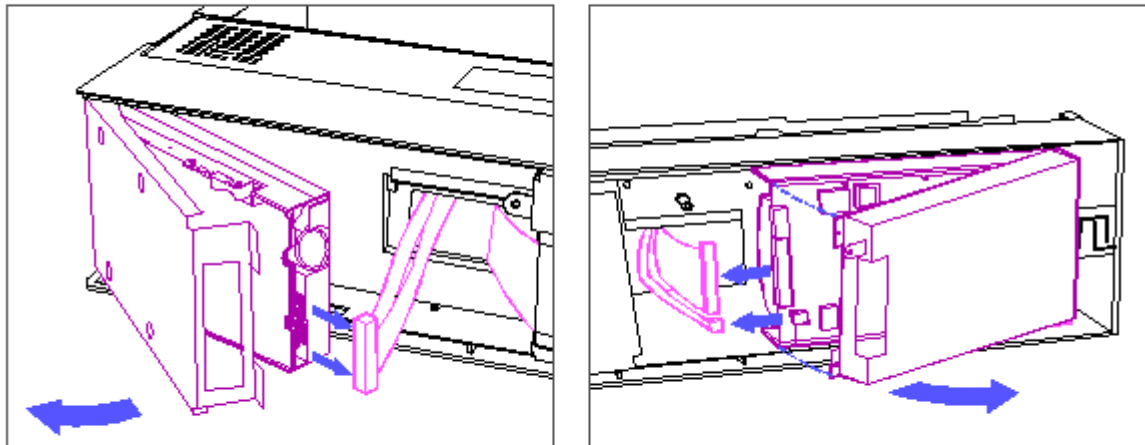

Figure 5-26. Disconnecting the Drive Cables
12. Carefully disconnect the diskette drive cable, fixed disk drive cable, and power cable (Figure 5-26).